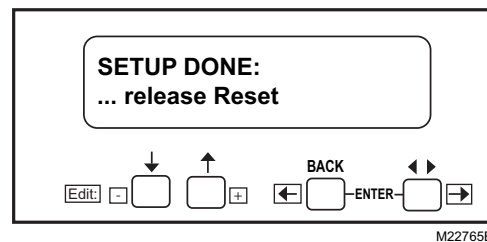

Fig. 12. Release Reset screen.
2. Press the down arrow to confirm the correct postpurge time. "Getting Data" will be displayed until the screen in Fig. 12 appears.